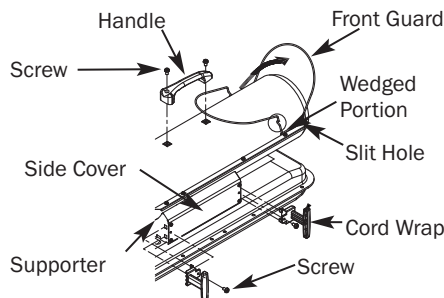

Figure 4 - Handle and Cord Wrap Installation CP045BK and CP075BK
2. Align the holes in upper housing with two mounting holes on the handle as shown in Figure 4.
4. Insert cord wrap into the rectangle holes on the supporter and align the hole on the cord wrap with the mounting hole on the side covers as shown in Figure 4.